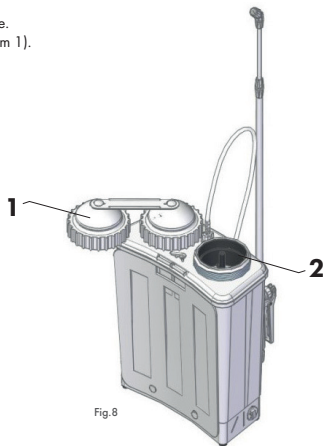
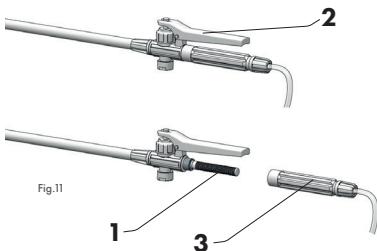
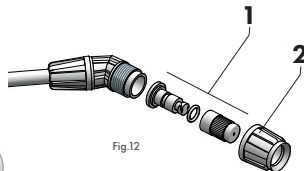

Fig.8
Fig.11
Fig.12
Unscrew the filling unit safety cap (Fig. 8/item 1).
Pour the previously prepared spraying liquid through the strainer underneath (Fig. 8/item 2). Any dirt which may have found its way into the strainer should be discarded. Screw on filling unit safety cap. The strainer can remain under the cap. Move the sprayer to the workplace. Now you can put the sprayer on your back and adjust the straps. **Lift the sprayer by the straps without the safety buckle.** Adjust and fasten the hip belt. Point the lance spray tip at the spray area and begin spraying by using the lever on the lance handle (Fig. 11 / item 2). Spray in the direction of the wind.
The filter (Fig. 11/item 1) located in the lance handle (Fig. 11/item 3) and the nozzle (Fig. 12/item 1) at the end of the lance (Fig. 1/item 7) should be cleaned periodically or before any extended period without operation.
Unscrew the lance tip nut (fig. 12 / item 2). Replace the nozzle (fig. 12 / item 1). Screw the lance tip nut with the nozzle onto the lance until it is airtight.
2. Press the lever (Fig. 11/item 2) and start spraying.